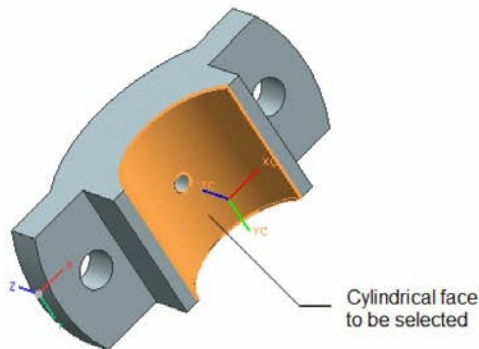
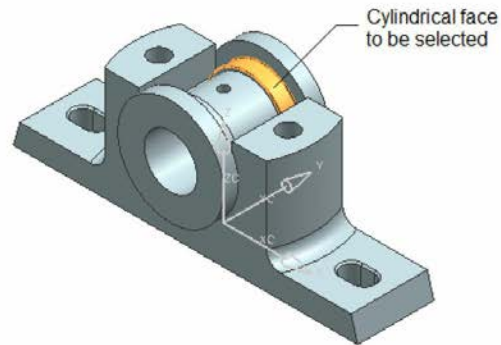

Figure 8-88 Cylindrical face to be selected from the Cap
Figure 8-89 Cylindrical face to be selected from the Brasses
constraints, refer to Figures 8-88 through 8-92.
5. Select the cylindrical face of the Cap, refer to Figure 8-88. Next, select the cylindrical face of the Brasses, refer to Figure 8-89.